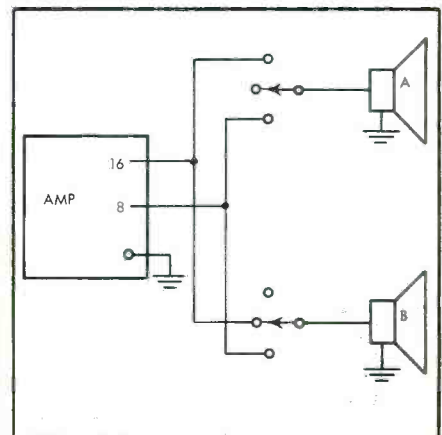

Fig. 2.
A. Figure 2 meets your requirements, with one addition. I provided a stereo normal, and a stereo-inverted position, so that the speakers may be reversed with regard to the amplifier to which they are connected. The diagram will make this arrangement clearer. Switch positions are clearly identified as to function.